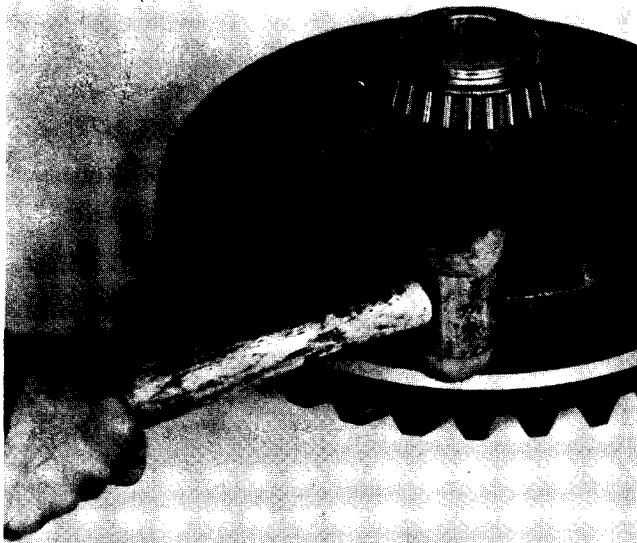

FIG. 80
2. Use soft hammer to drive ring gear from case half (Fig. 80).